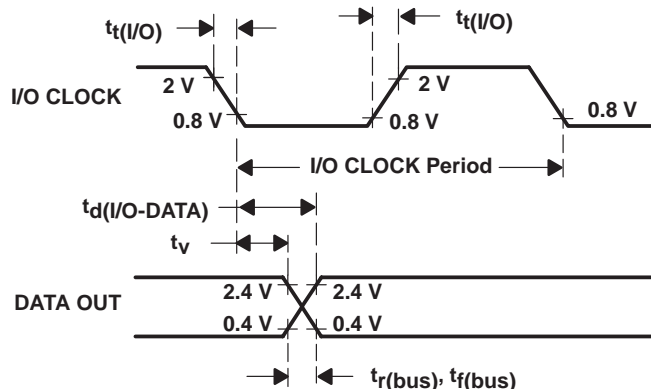

Figure 5. I/O CLOCK and DATA OUT Voltage Waveforms
- I/O CLOCK period = $1/(\text{I/O CLOCK frequency})$. Sampling begins on the falling edge of the third I/O CLOCK, continues for seven I/O CLOCK periods, and ends on the falling edge of the 10th I/O CLOCK (see Figure 5).